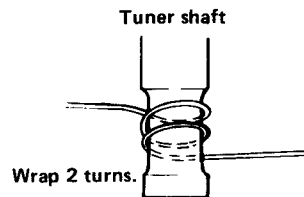

Fig. 15
6. Pull the dial cord taut and wrap 2 turns clockwise. See Fig. 15.